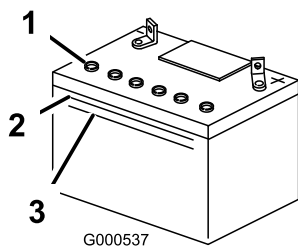

Figure 50
1. Look at the side of the battery. The electrolyte must be up to the **upper** line (Figure 50). Do not allow the electrolyte to fall below the Lower line (Figure 50).
3. Remove the vent caps from the battery (Figure 50).
4. Slowly pour distilled water into each battery cell until the electrolyte level is up to the Upper line (Figure 50) on the battery case.
5. Wait five to ten minutes after filling the battery cells. Add distilled water, if necessary, until the electrolyte level is up to the Upper line (Figure 50) on the battery case.